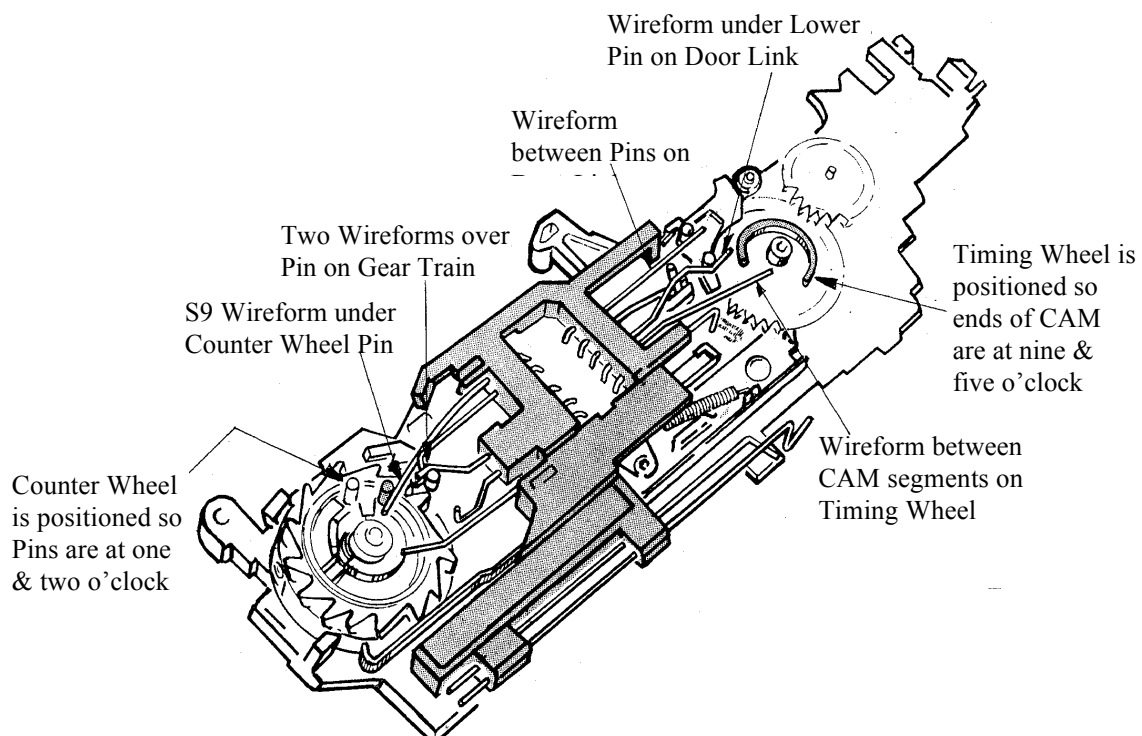

Figure 4-14e Wireform Switch Orientation
- j. Now free opposite end of the Gear Train Cover near the Counter Wheel by inserting a screwdriver at the two places shown in Fig. 4-14e. Gently pry the upper finger upward, the lower finger outward. Rotate the Cover outward, freeing the top first and then unhooking the bottom of the Cover from the tab next to the film switch.
- e. Load the Counter Wheel Spring into the cavity on the Counter Wheel and install the Counter over its shaft on the Gear Train. Rotate the Counter about one turn counter-clockwise. The Counter will rise over the tab and settle into position. When correctly installed, the two pins on the wheel will be at about the one and two o'clock positions (See Figure 4-14e).
- m. Referring to Figure 4-14e, carefully position the Wireform Switch Block over the assembled Gear Train. AGAIN, THE IMPORTANCE OF CORRECT POSITIONING OF ALL THE WIREFORM SWITCHES CANNOT BE OVER-EMPHASIZED. BE ABSOLUTELY CERTAIN THAT ALL WIREFORM SWITCHES ARE IN THE POSITIONS SHOWN IN FIGURE 4-14e.